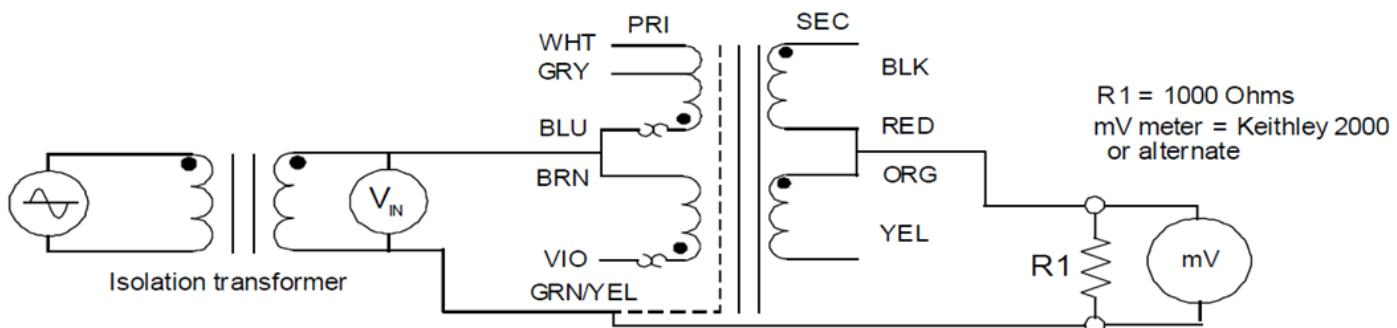
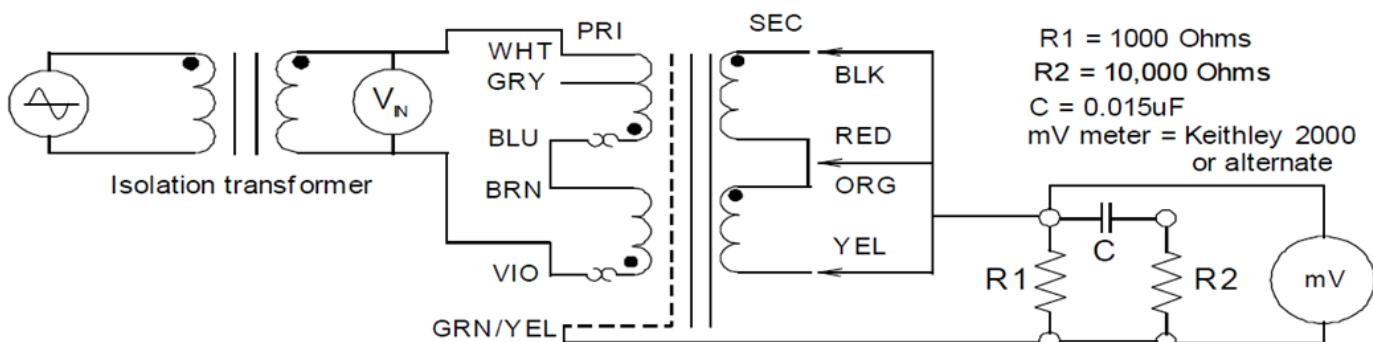

Figure 1
Figure 2
8. Earth Leakage: $\leq 10\mu\text{A}$ (See Fig. 1), Patient Leakage: $\leq 25\mu\text{A}$ (see Fig. 2)